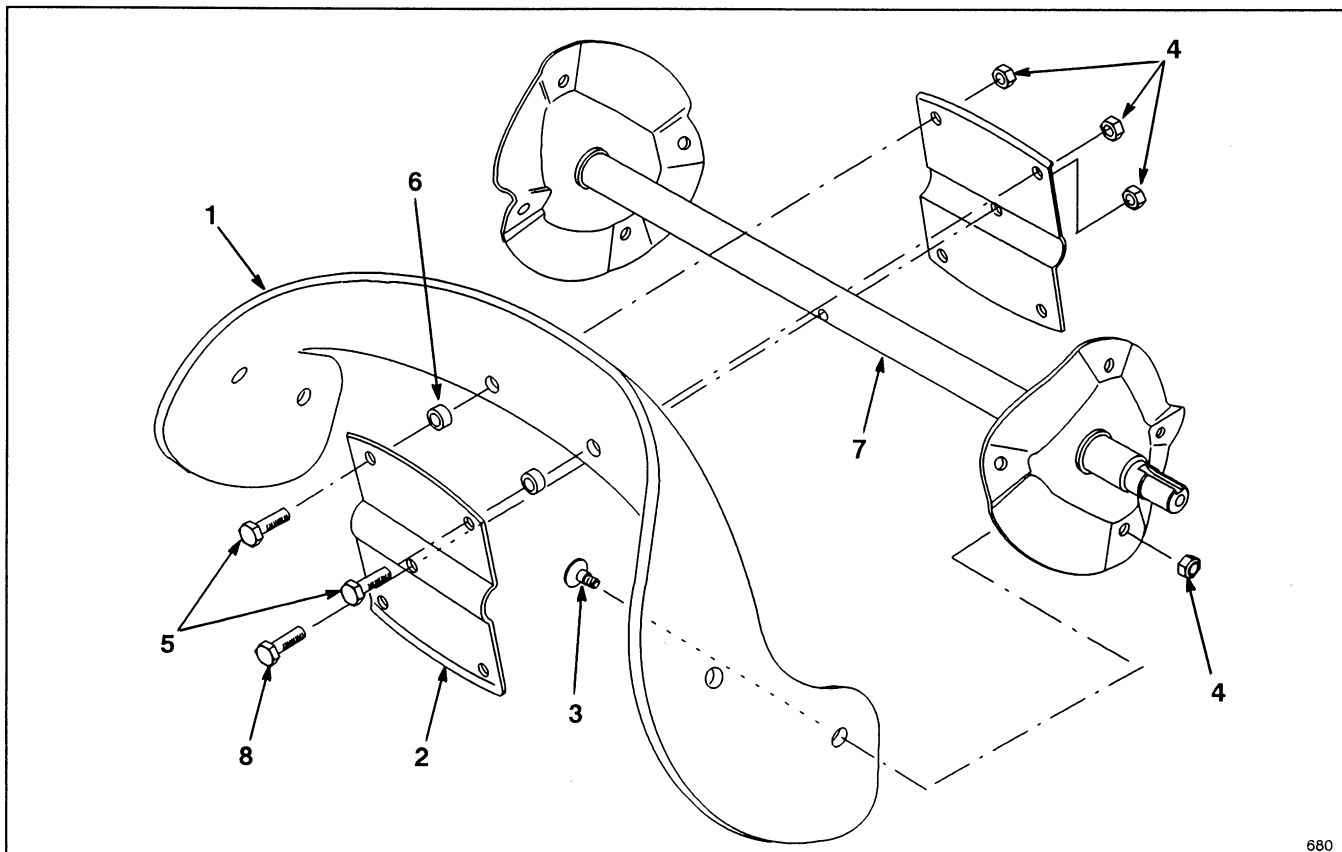

Figure 19
1. Remove (4) torx screws and (4) locknuts securing outer edges of rotor blade to rotor shaft assembly (Fig. 19).
2. Next, remove (2) hex-head capscrews, spacers and locknuts securing center of blade to steel plates (Fig. 19).
3. Loosen the hex-head screw securing the rotor halves to the auger shaft assembly (Fig. 19).
4. Slide the blade out from between the rotor halves (Fig. 19).
2. Insert the new blade between the rotor halves. Secure it to the rotor halves with (2) hex-head capscrews, (2) spacers and (2) locknuts (Fig. 19). Position bolt heads on thick (bottom) side of blade. Curve the blade, and secure it with the remaining (4) torx screws and locknuts (position screw heads on thick side of blade). Tighten all screws and nuts securely.